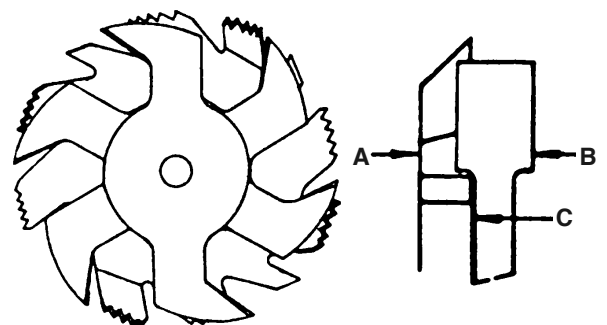

FIGURE 43
Various combination of saws and cutters are used to cut grooves from 1/8" to 13/16" for use in shelving, making joints, tenoning, grooving, etc. The cutters are heavily swaged and must be arranged so that this heavy portion falls in the gullet of the outside blades, as shown in Fig.43. The saw and cutter overlap is shown in Fig.43 (A) being the outside blade, (B) and inside cutter, and (C) a paper washer which can be used as needed to control the exact width of groove. A 1/4" groove is cut by using the two outside blades. The teeth of the blades should be positioned so that the raker on one saw is beside the cutting teeth on the other saw.